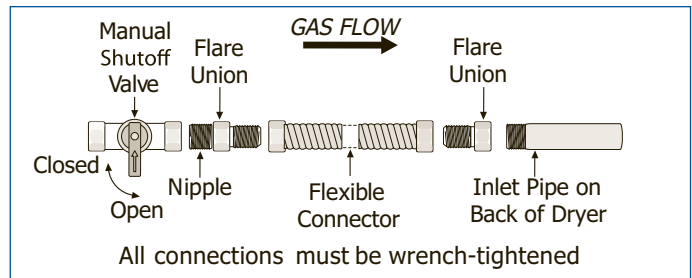

Figure 2-13.
2. Connect a 1/2 inch (1.27 cm) I.D. semi-rigid or approved pipe from gas supply line to the 3/8 inch (0.96 cm) pipe located on the back of the dryer. Use a 1/2 inch to 3/8 inch (1.27 cm to 0.96 cm) reducer for the connection. Apply an approved thread sealer that is resistant to the corrosive action of liquefied gases on all pipe connections. (See Figure 2-13)